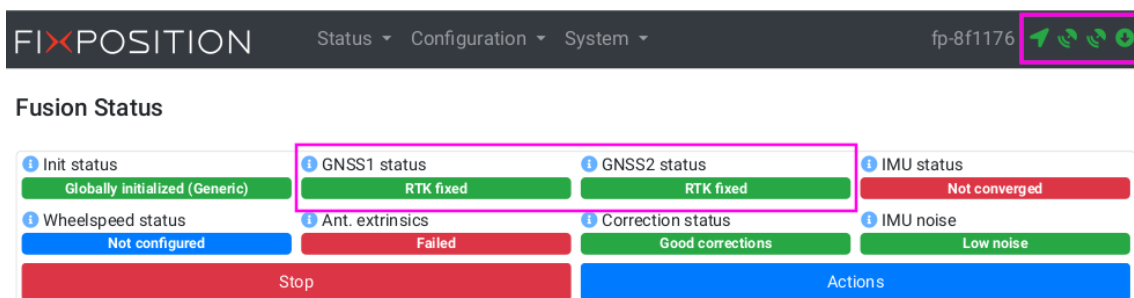

Figure 6.3.: Status badges and flags when Fusion is initialized
- d) After Fusion initialization, the status bar will be updated continuously including the correction data status: Figure 6.3 shows that flags and badges are aligned and display the same status.